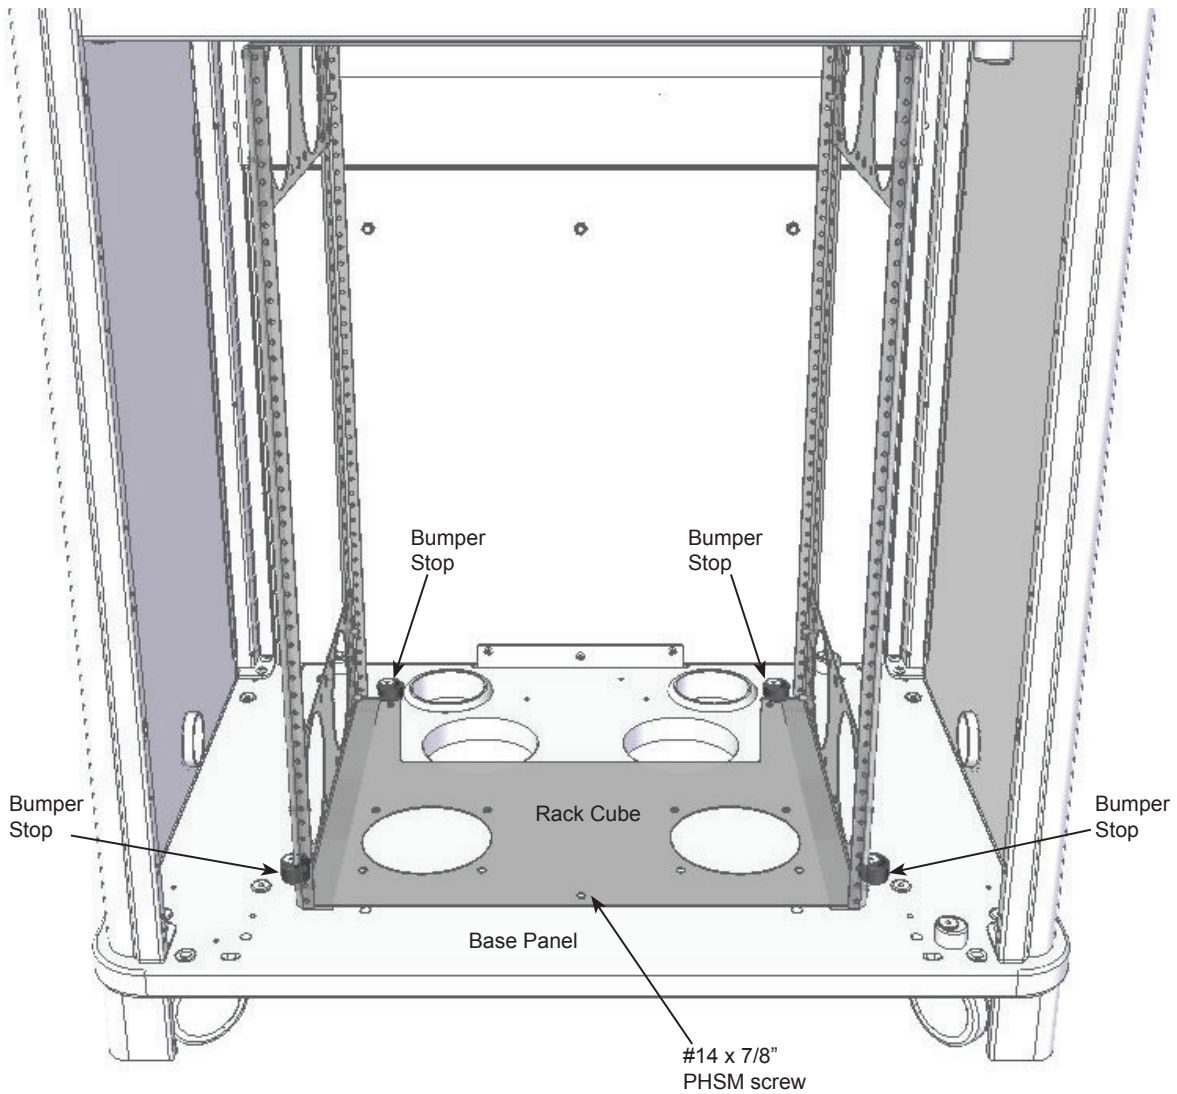

Figure 3
2. Install the (4) bumper stops to the base panel as shown with one 7mm x 30mm JCW screw each. **Figure 3.**
4. Secure the cube to the base panel with (1) #14 x 7/8" PHSM screw and tighten securely.